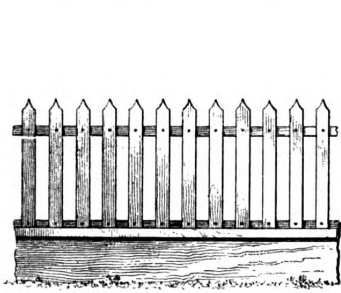

Fig. 1.
*From G. W., Galacia, Ohio.*—In answer to the request of "J. C. P.," Bicknell, Ind., I take the liberty of inclosing a number of designs suitable for fence construction. The drawings so clearly indicate the manner in which the fences are made that very little description would appear to be necessary. Fig. 1 represents a picket fence with base 7 inches wide, on which is a 2-inch cap. I employ 38 pickets, 18 inches long, to every 16 feet